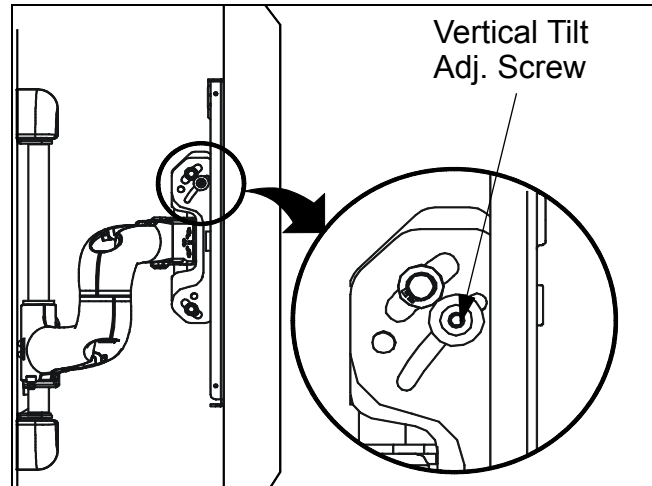

Figure 9: Vertical Tilt
1. Using 5/32" Allen wrench, slightly tighten or loosen two screws, one on each side, equally (See figure 9).